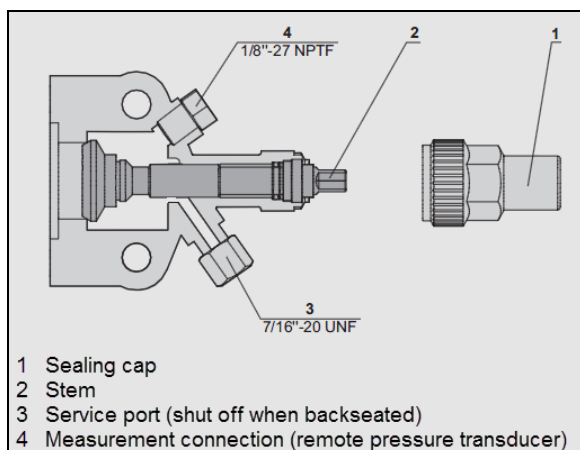

FIGURE 96: COMPRESSOR SHUT-OFF VALVE IN FRONT SEATED POSITION
3. Close (frontseat) the receiver tank outlet shutoff valve by turning the stem clockwise (Figure 62 and Figure 96).
10. Close (frontseat) the suction shutoff valve on the compressor (Figure 96).